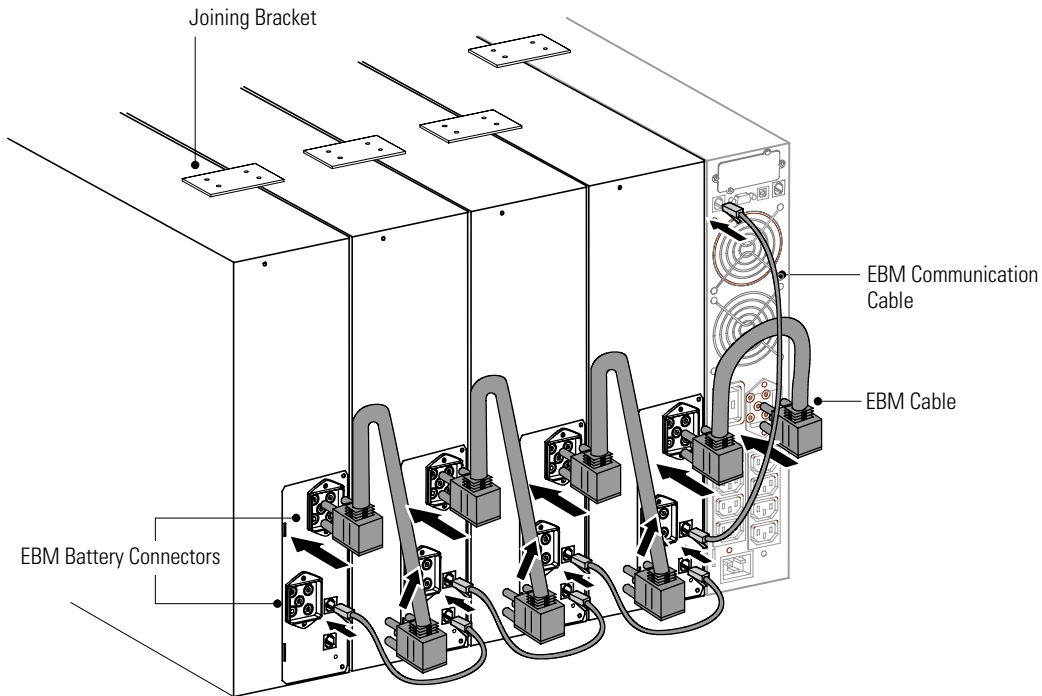

Figure 29. EBM Connections (230V Tower Model Shown)
6. Plug the new EBM into the UPS as shown in Figure 29.